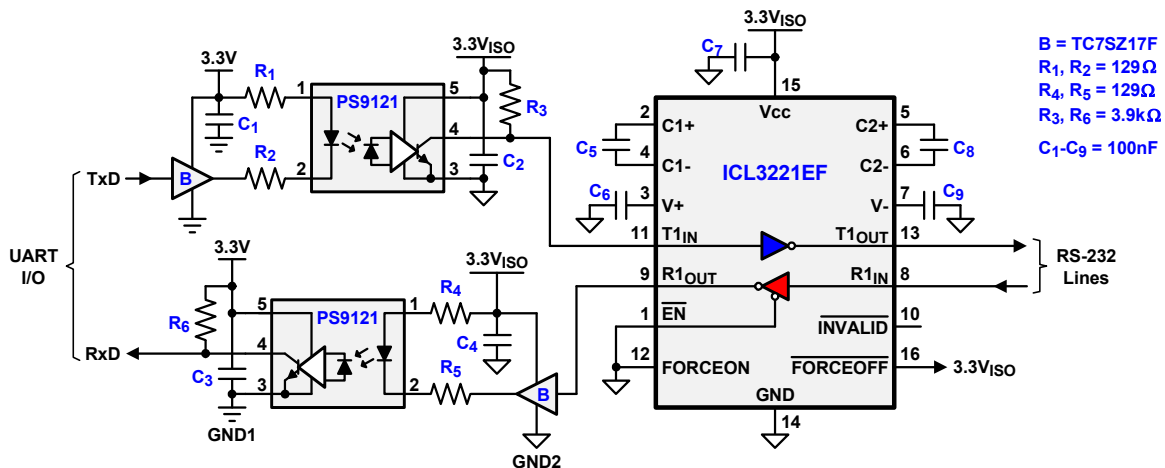
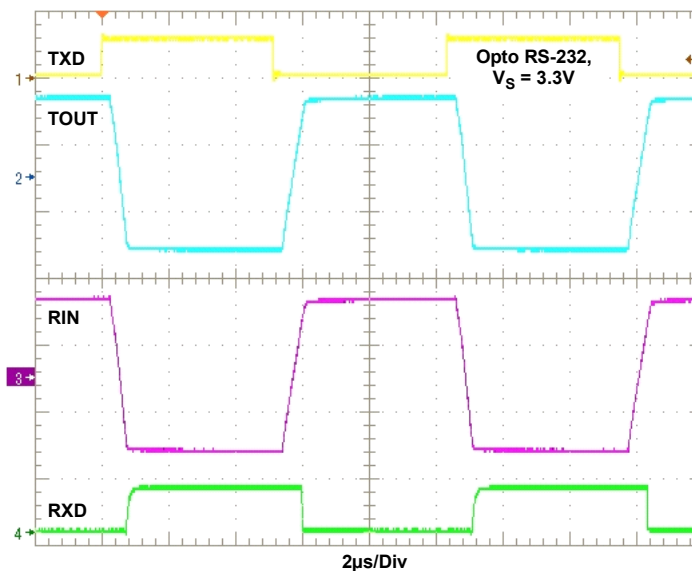

Figure 7. 3.75kV Isolated RS-232 Interface
Figure 8. Signal Waveforms for Transmit and Receive Channels
Figure 7 shows an isolated RS-232 interface using PS9121 optocouplers rated for 3.75kV isolation and up to 15Mbps data rate. Its output supply range is from 2.7V to 3.6V. The RS-232 transceiver ICL3221EF is specified with a data rate of 250kbps and operates from a 3.0V to 3.6V supply. Logic buffers (B) are used to drive the necessary LED currents that usually cannot be provided by low-power MCUs or RS-232 receiver outputs.
Figure 8 shows the signal waveforms of the isolated interface circuit in Figure 7.